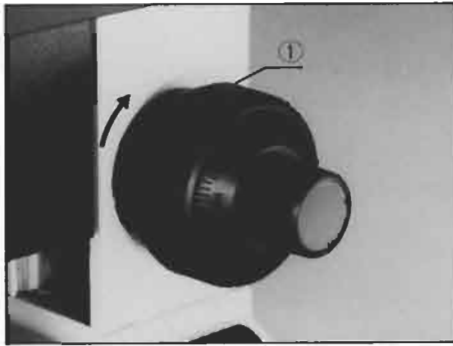

Fig. 17
1) A tension adjustment ring ① is provided next to the coarse adjustment knob. With this device the tension of the coarse adjustment is freely adjustable for either heavy or light movement, depending upon operator preference.
Applying the blade of a large screwdriver at the knurled periphery of the tension adjustment ring ①, rotate the ring in the direction of the arrow to increase the tension, or reverse the ring to loosen. (Fig. 17)